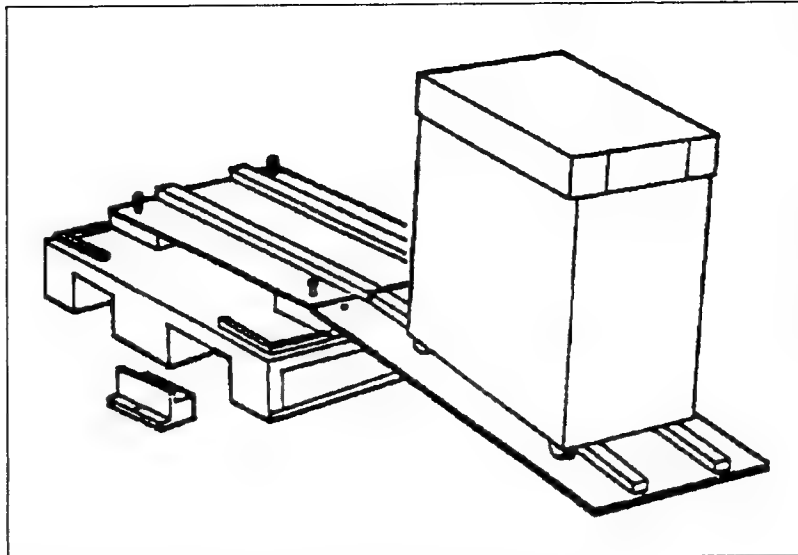

Figure 2-5. Rolling the Printer off the Shipping Pallet
- e. Ensure the levelers on the bottom of the printer are in the raised position. Using two people, roll the printer carefully down the ramp (as shown in Figure 2-5). One person should guide the printer from the front while the other person guides and assists from the rear or side of the printer.